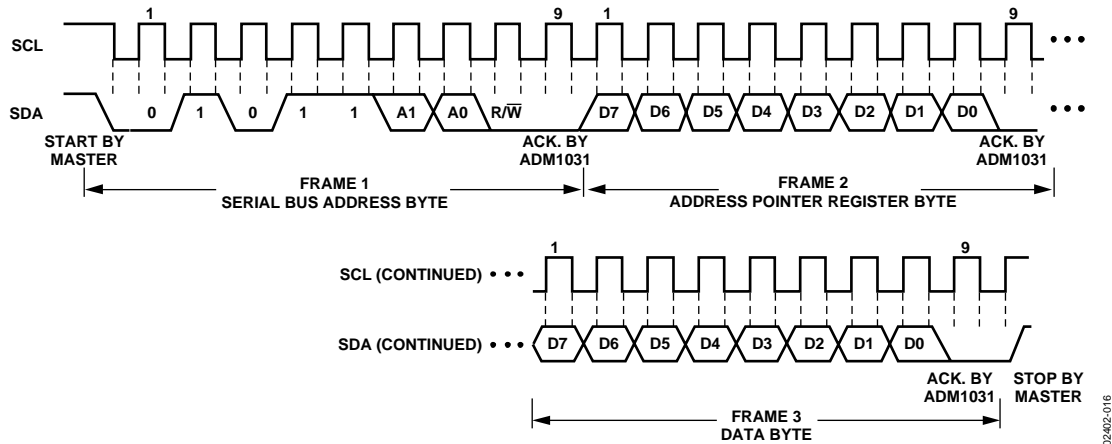
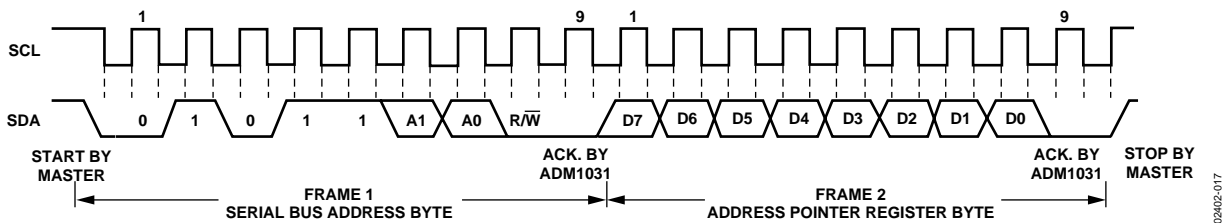
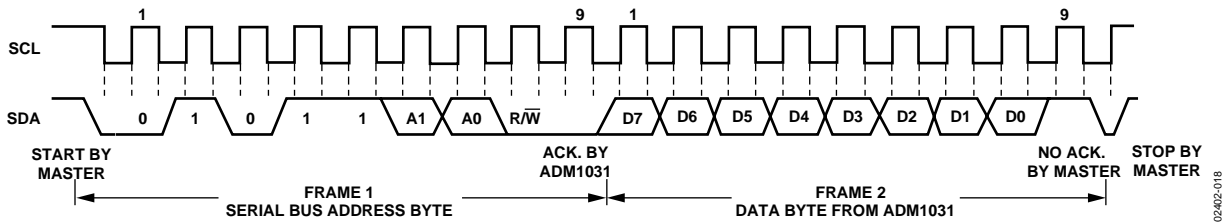

Figure 16. Writing a Register Address to the Address Pointer Register, then Writing Data to the Selected Register
Figure 17. Writing to the Address Pointer Register Only
Figure 18. Reading Data from a Previously Selected Register
This is illustrated in Figure 16. The device address is sent over the bus followed by R/\overline{W} set to 0. This is followed by two data bytes. The first data byte is the address of the internal data register to be written to, which is stored in the address pointer register. The second data byte is the data to be written to the internal data register.
1. If the ADM1031's address pointer register value is unknown or not the desired value, it is first necessary to set it to the correct value before data can be read from the desired data register. This is done by performing a write to the ADM1031 as before, but only the data byte containing the register address is sent, as data is not to be written to the register. This is shown in Figure 17.
A read operation is then performed consisting of the serial bus address, R/\overline{W} bit set to 1, followed by the data byte read from the data register. This is shown in Figure 18.
2. If the address pointer register is known to be already at the desired address, data can be read from the corresponding data register without first writing to the address pointer register, so Figure 17 can be omitted.
- In Figure 16, Figure 17, and Figure 18, the serial bus address is shown as the default value 01011(A1)(A0), where A1 and A0 are set by the three-state ADD pin.